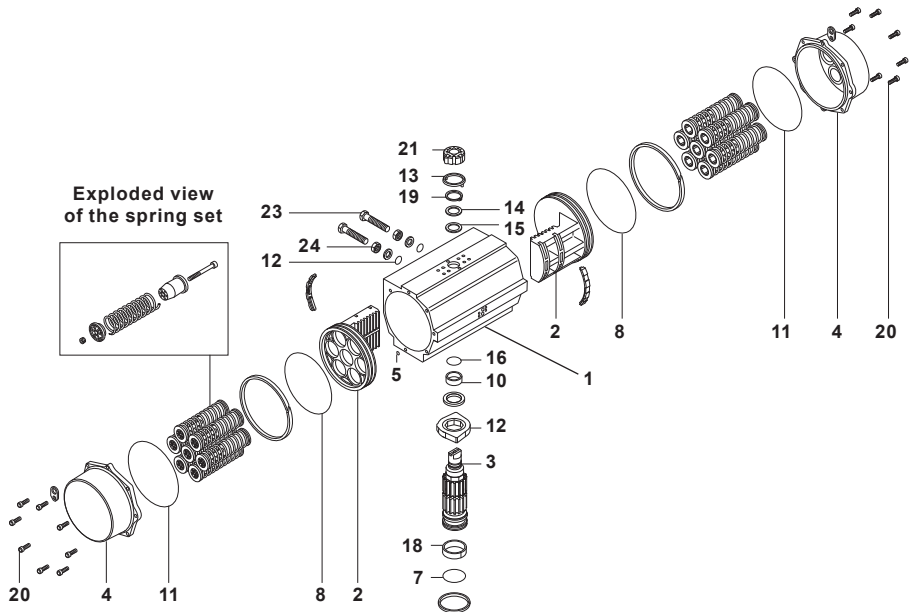

Fig. 5 BVA300 series shown
- Place the pinion (3) in the body (1) from underneath. Once the pinion appears through the inside of the body, assemble the pinion stop (12) in its correct position and also the upper pinion bearing (10).
- Place the soft pinion washer (15), the metallic pinion washer (14), the slip washer (19) and the position indicator (21 and 13) in the upper part of the pinion.
- Assemble both pistons, checking that they engage at the same time when turning the pinion (3) clockwise for normally closed actuators and anticlockwise for normally open actuators.
- Assemble the actuator end caps (4) tighten the bolts (20) in sequence. Check that the open and closed positions coincide with the position indicated in the upper part of the pinion (see Figure 5).